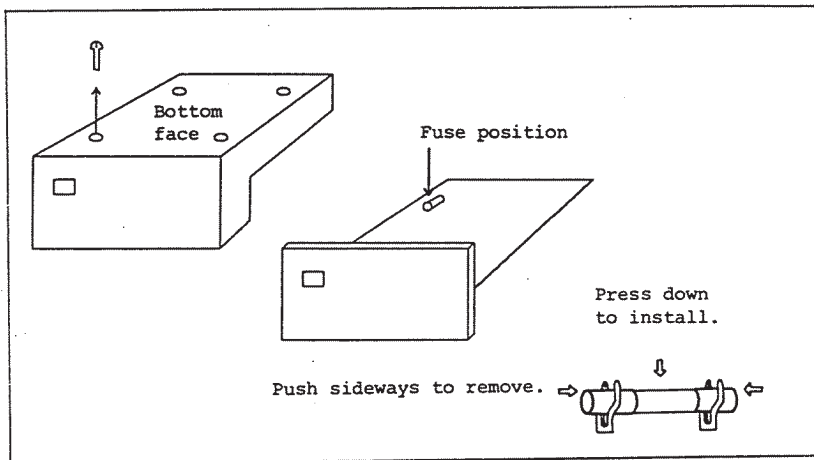

Figure 7-2 Battery Fuse Position and its Removal Procedure
If the multimeter is not energized even after setting the POWER switch to ON, the cause may be a blown battery fuse. The 0.8 A slow blow fuse is used. The fuse replacement procedure is shown in Figure 7-2.
- ① Turn the battery unit upside down, remove the four screws of the lower case, and remove the cover.
- ② Take out the fuse as shown in Figure 7-2. To install, press down the fuse. A new fuse must be checked visually, to see whether the resistance value is below 15 Ω .